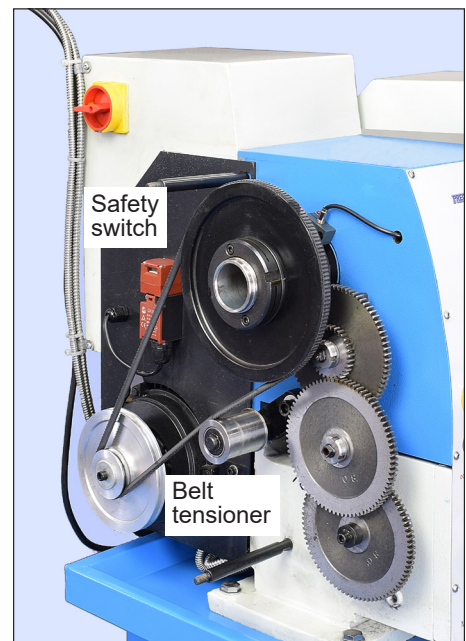

Figure 1-2 Drive belt adjustment
2. Remove the belt cover left of the headstock. Make sure the belt is set for the desired speed range — **low speed suggested** — and properly tensioned, see Figure 1-2.
3. Replace the belt cover. This closes the safety switch (SQ1), Figure 1-2.
17. Check that the belt cover safety switch stops the motor when the belt cover is removed, Figure 1-2.
18. To **stop the motor**, turn the Motor Control switch to its mid-point (0).